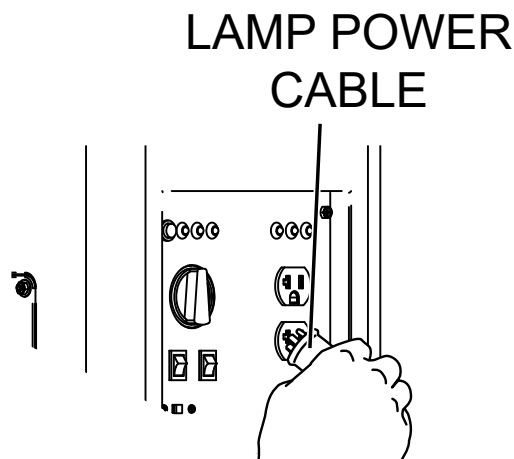

Figure 25. Connecting to Generator
1. Connect the power cable to the AC power outlet on the generator (Figure 25).